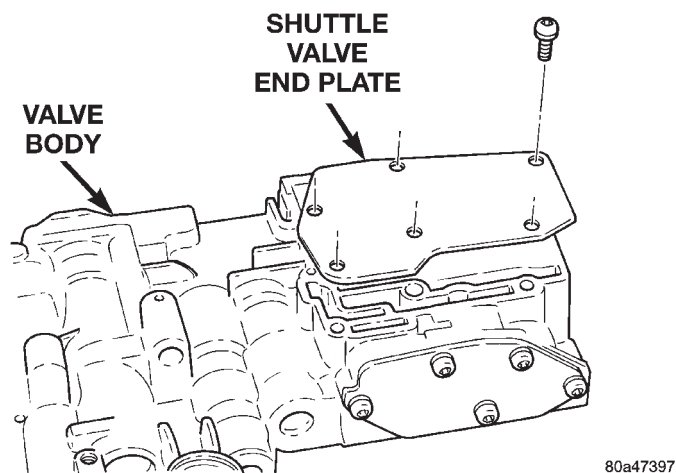

Fig. 55 Shuttle Valve End Plate
(20) Place shuttle valve end plate in position on valve body (Fig. 55).
(21) Install screws to attach shuttle valve end plate to valve body (Fig. 55).